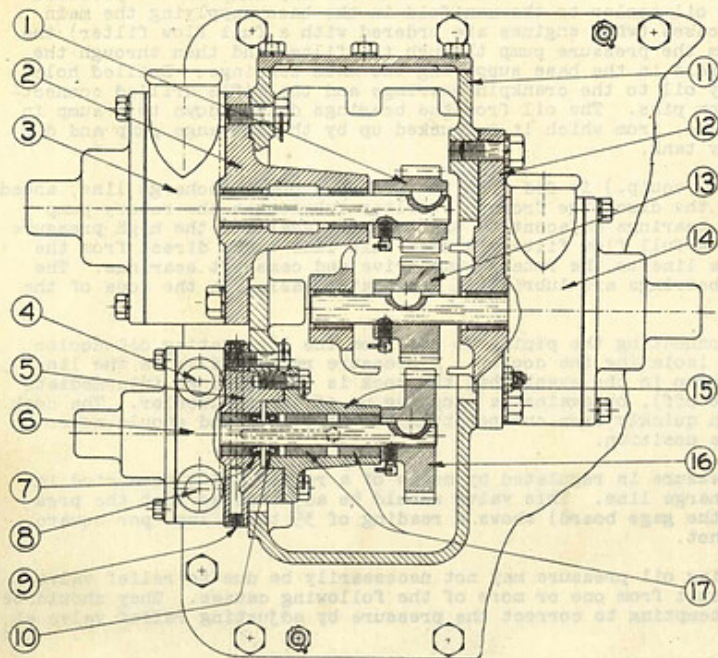

FIG. T-1
The lubricating oil pump drive is shown in Fig. T-1. The pressure pump (14) and scavenge pump (3), together with the fuel transfer pump (6) are mounted in a common housing on the after end of the control side of the engine. The lubricating oil